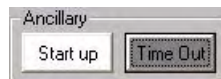

FIG. 87 Ancillary options - Time Out
1. From the *Ancillary* options (in the *System* window), select **Time Out** (FIG. 87):